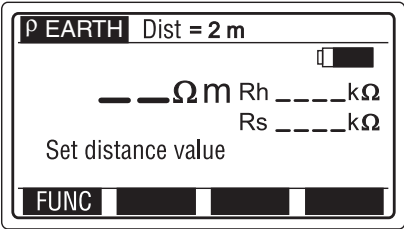

Figure 41: Distance Setting Menu
- To adjust the probe distance (distance between earth rods) press function key F2 (DIST) to enter the setting menu, please refer to Figure 41.